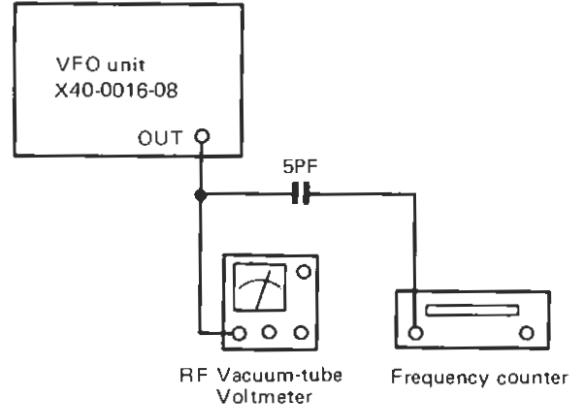

Fig. 4
- 1) Connect R-F vacuum-tube voltmeter and frequency counter to OUT terminal of VFO unit (X40-0016-08), as shown in Fig. 4.